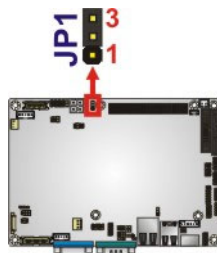

Figure 4-13: PCI-104 Voltage Jumper Location
- Jumper Location:** See Figure 4-13